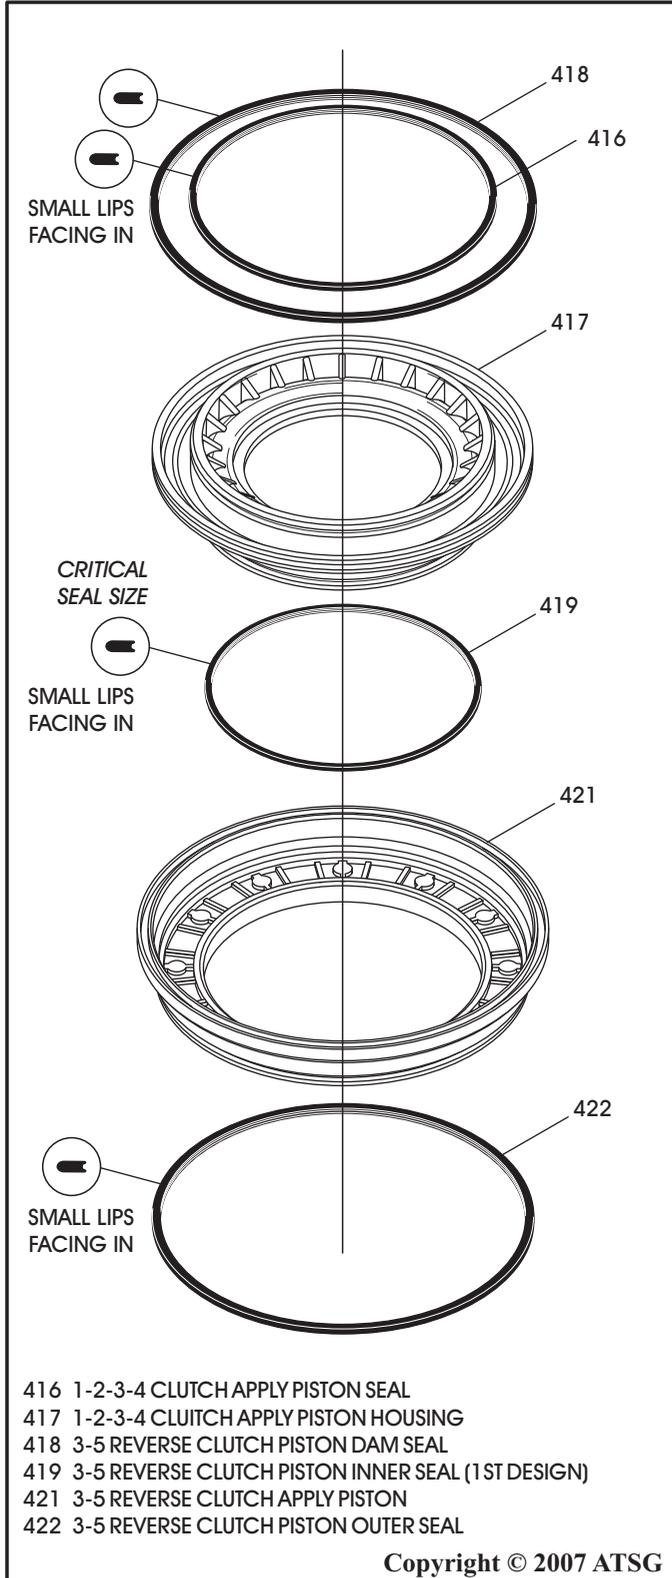

Figure 92
8. Install the seals into the grooves of 3-5 reverse clutch apply piston and 1-2-3-4 clutch apply piston, with the small lips facing towards the groove, as shown in Figure 92.